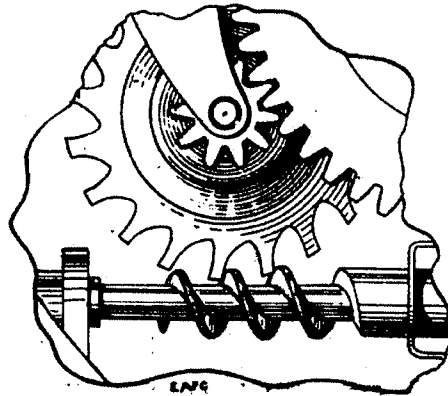

FIG.7. SETTING OF THE GOVERNOR GEAR
3. Governor gear. It should be checked that the governor gear engages the governor worm correctly. A good method to test the running of the governor gear and governor is to replace the main gear-wheel assembly temporarily, and revolve the finger plate a few times; if the governor gear engages the governor worm too deeply the governor will not run smoothly; if the governor gear engages the main gear-wheel too deeply, vibration will occur. The governor gear should be set as shown in Fig.7. In the event of the governor or governor gear becoming damaged, the complete governor assembly or governor-gear assembly, as the case may be, should be renewed. The dial should then be reassembled and adjusted.